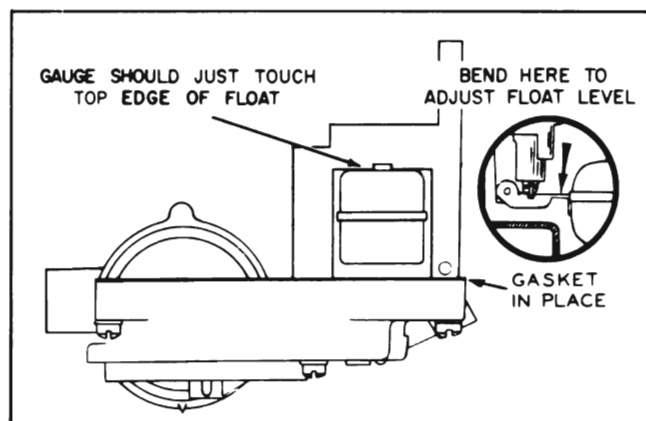

Figure 3-30—Float Level Adjustment
12. Adjust Float Level. With air horn assembly inverted, position Float Level Gauge (1-17/64") of Gauge Set J-9161 (V-8 engine) or J-9586 (V-6 engine) over float so it rests against pump side of power piston shaft, with outer leg in line with center of float. Bend float arm as required to adjust float level. See Figure 3-30.